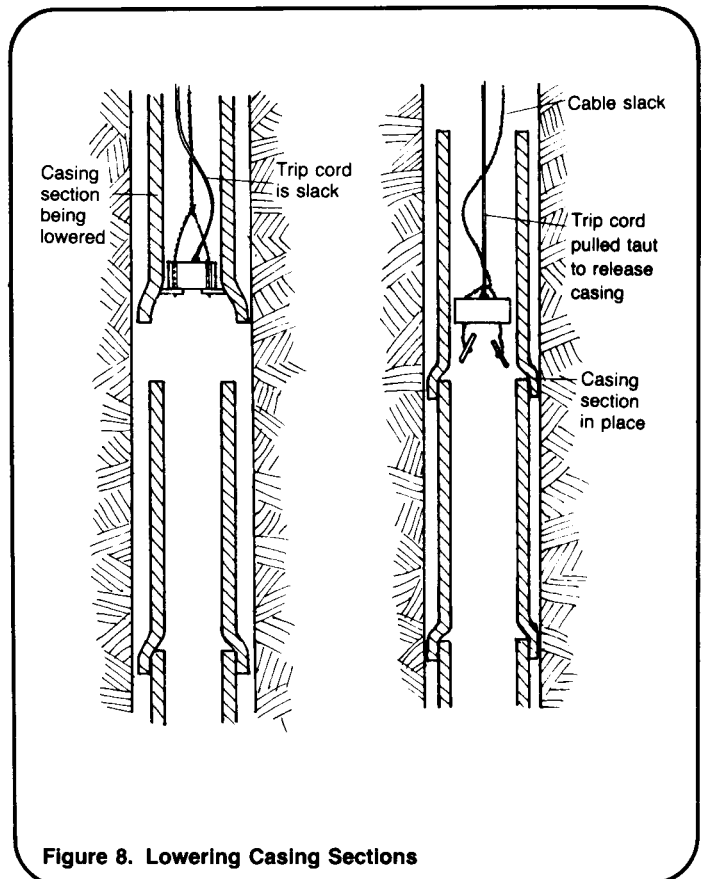

Figure 8. Lowering Casing Sections
6. If the sides of the shaft tend to cave in or crumble, remove the auger and drill pipe from the shaft. Lower the screen and casing into the shaft. A device for lowering concrete pipe casing is shown in Figure 8. If concrete pipes are used, spread mortar on each pipe section before lowering, and lower the pipe with the bell-end down.